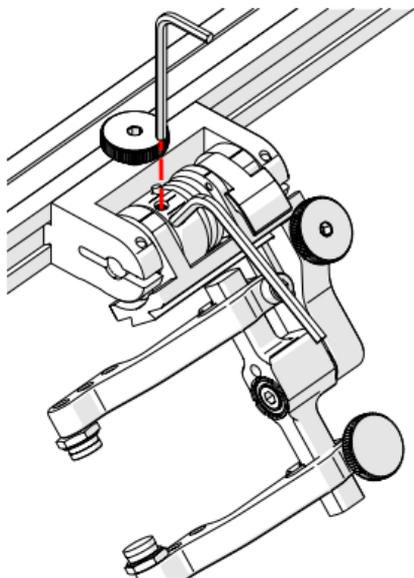

Fig. 102 - Insert hex tools
4. Place the 2 mm hex wrench into the force adjustment screw (Fig. 102).